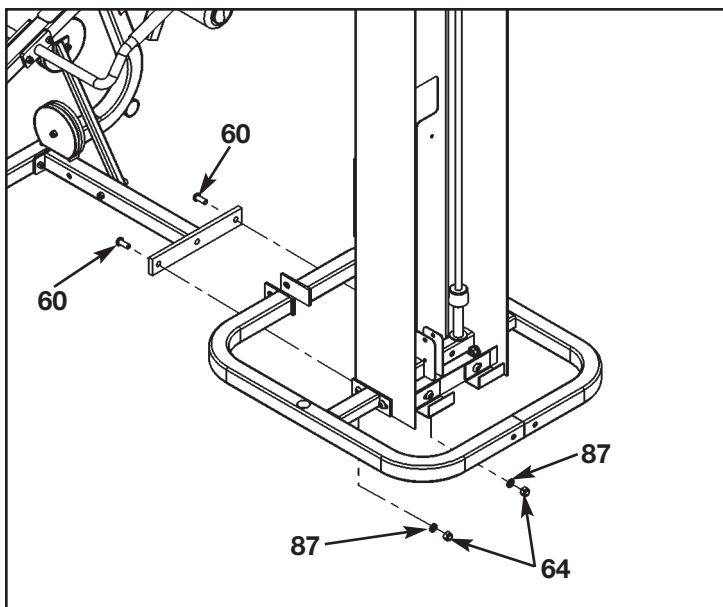

Figure 12A
- D. Install the Leg Extension/Leg Curl Assembly to the column. See Figure 12 for Modular/Tandem configurations and Figures 12A and 12B for Free Standing configuration.